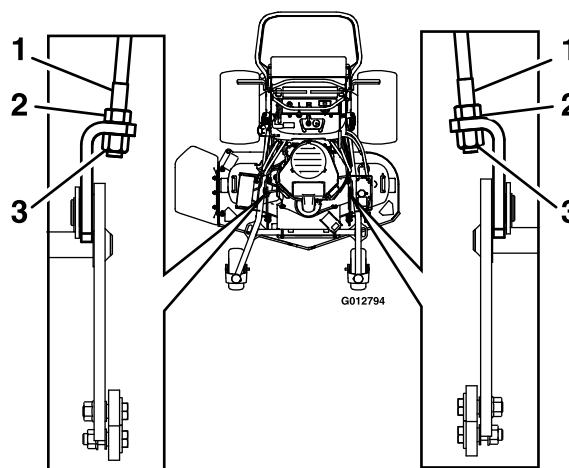

Figure 25
6. Loosen the rear lock nuts on both adjustment rods (Figure 25).